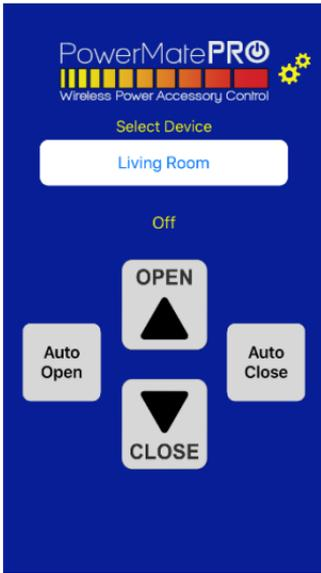

figure 12
- 3)** After entering the passcode the Operation screen (Figure 7 or Figure 12) will be displayed. At the top of this screen the currently active PowerMatePRO unit will be listed by the Device Name you entered during the initial setup of the unit. Tapping on the currently active device name will display a list of all PowerMatePRO units currently associated with the app. Tap a name in the list to make that unit the currently active device.
The PowerMatePRO system settings are on a single Setting screen (Figure 8) and can be accessed by tapping the Gear icon in the upper right corner of the Operation screen (Figure 7 or Figure 12). Below are detailed explanations of each setting option.
The Connect One and Connect All buttons refer to the method the PowerMatePRO app uses to make Bluetooth connections to the PowerMatePRO devices. The default selection is Connect One which causes the app to drop the Bluetooth connection to the current PowerMatePRO and make a new Bluetooth connection each time a new PowerMatePRO is selected from the Operation Screen (Figure 7 or Figure 12). Selecting the Connect All option will cause the app to connect to all PowerMatePRO's that have been "learned" by the app each time the app is started. Using the Connect All option requires that multiple Bluetooth connections be maintained simultaneously and some phones and tablets may not have the resources required to do this. If you select the Connect All option and notice that the app doesn't perform optimally, you can change back to the Connect One option.